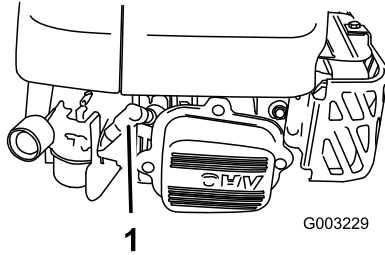

Figure 33
2. Disconnect the spark plug wire from the spark plug (Figure 33) before performing any maintenance procedure.